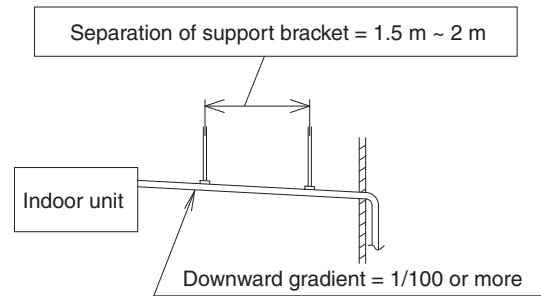

Fig. 3-92
- Make sure the drain pipe has a downward gradient (1/100 or more; downward from drain port connection). (Fig. 3-92)